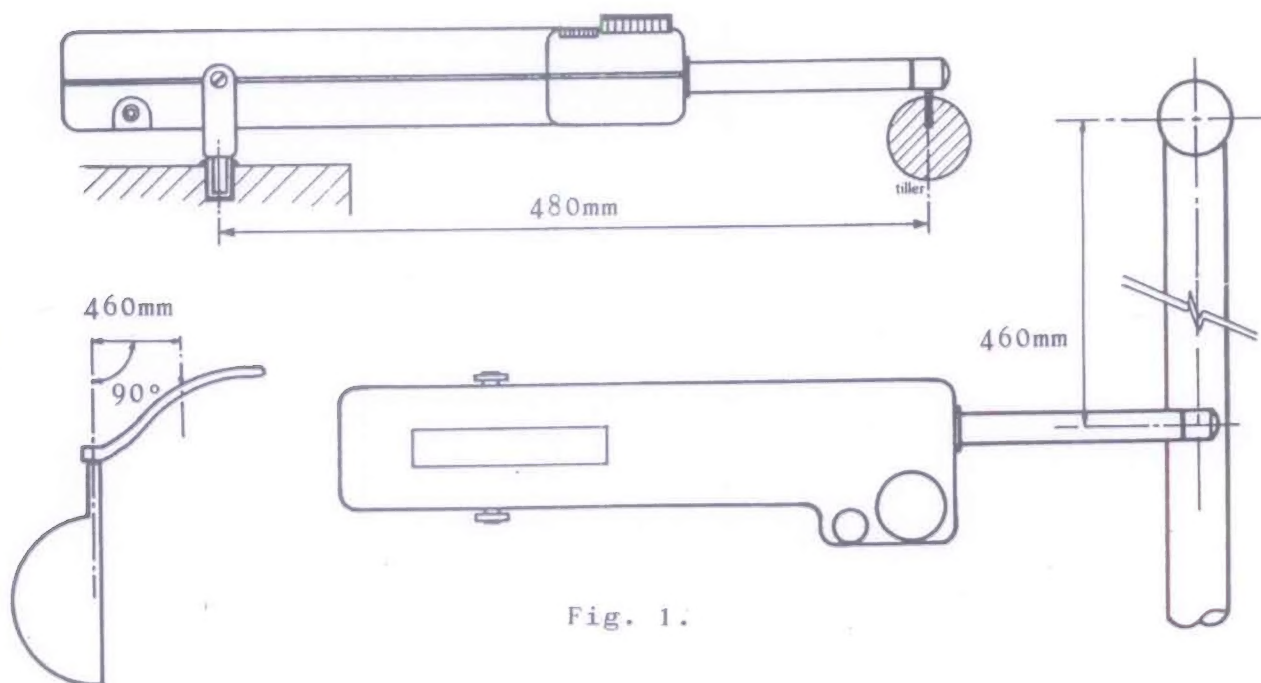

Fig. 1.
- 1) Take measurements and mark preferred position as shown in Fig.1.